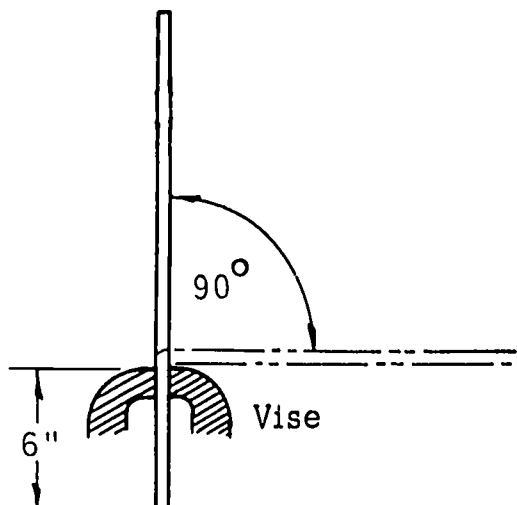

Fig. 39-7. Bending Rod
4. Bend each rod 6" from one end. See Fig. 39-7.